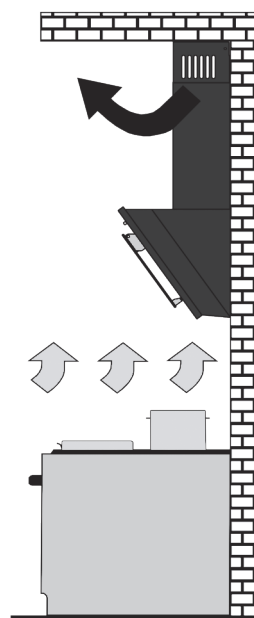

Fig. 2
☒ **recirculation (closed-loop kitchen air circulation)** when a cooker hood is not connected to a chimney; air passes through an aluminium grease filter **(supplied with the hood)** and an **optional** odor-absorbing carbon filter and, finally, returns to a kitchen (Fig. 2).
- ☒ recirculation (closed-loop kitchen air circulation) (Fig. 2).